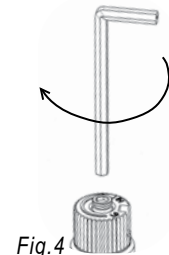

Fig.4
- 9) Using the Allen wrench as shown in Fig.4, rotate the screw clockwise until snug, do not overtighten.